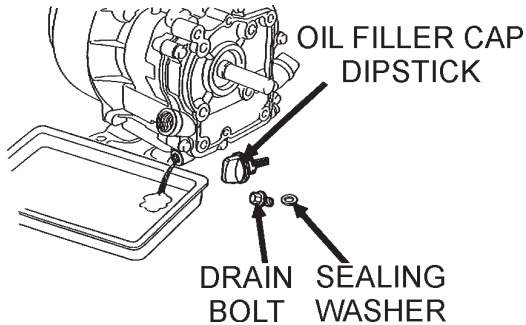

Figure 20. Engine Oil (Draining)
- Drain the engine oil when the oil is **warm** as shown in Figure 20.